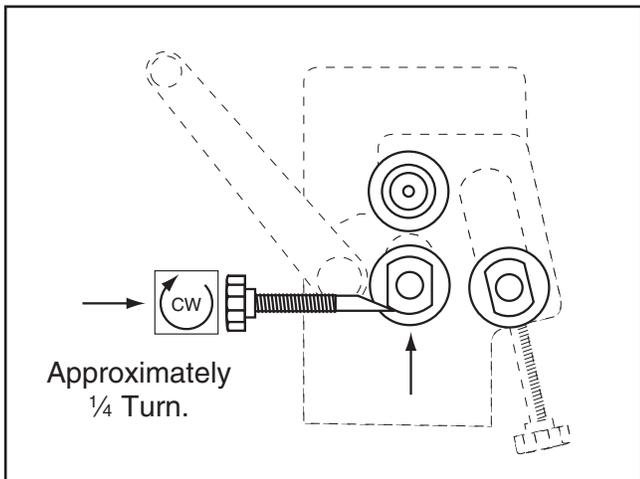

Figure 15. Raising lower roller $\frac{1}{4}$ turn.
- Remove the workpiece from between the rollers, then raise the lower roller slightly by rotating each thickness adjust knob approximately $\frac{1}{4}$ turn. Also, make sure the rear roller is lowered completely and will not interfere with the workpiece as it exits the machine (**Figure 15**).